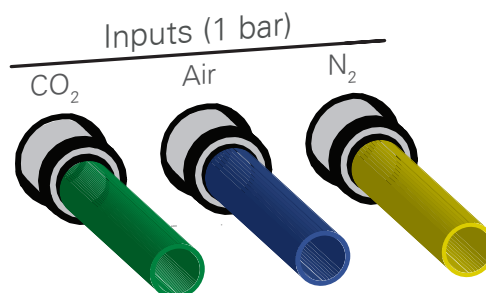

Figure 15: Connection of the gas tubing to the Gas Mixer. The N₂ port is closed and not available in the CO₂ only version of the Gas Mixer.
3. Connect the gas tubing from the gas supply to the back of the Gas Mixer (Figure 15).